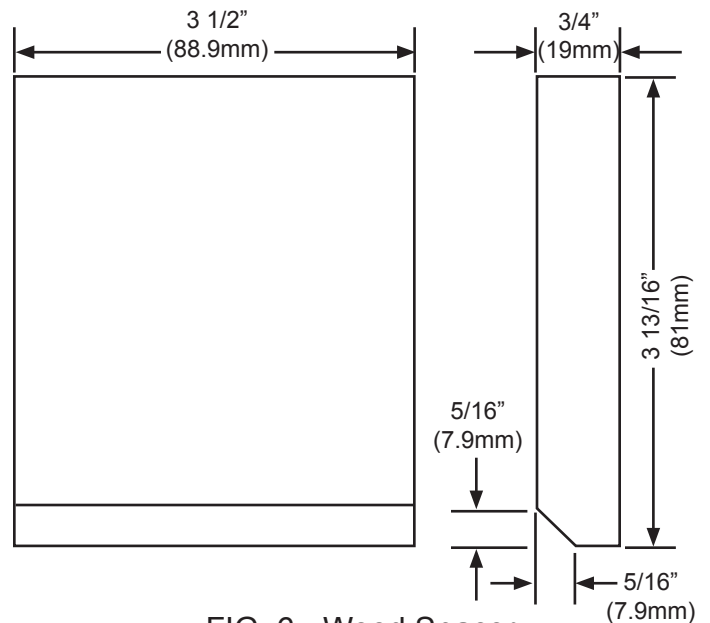

FIG. 6 - Wood Spacer
4. Cut (5) wood spacers per Fig. 6. (Included with CPGSKTKIT001A00.)